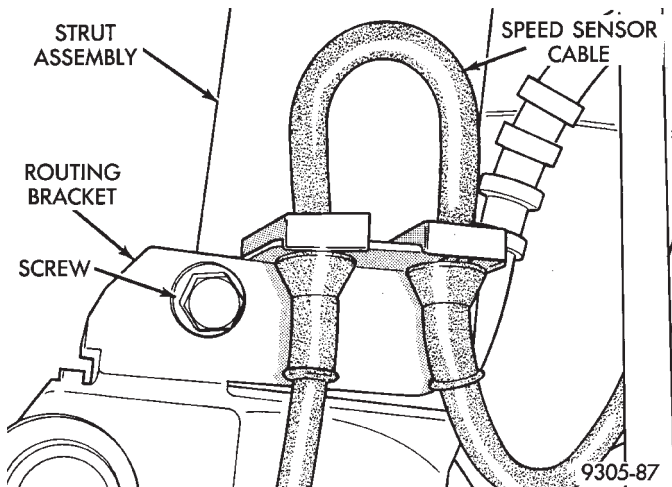

Fig. 7 Speed Sensor Cable To Strut Assembly Routing Clip
(5) Remove the speed sensor cable routing bracket from the front strut assembly (Fig. 7).
(2) Correctly route the speed sensor cable up to the strut assembly (Fig. 7). Install speed sensor cable routing bracket on strut assembly. Then install and tighten routing bracket attaching screw (Fig. 7).